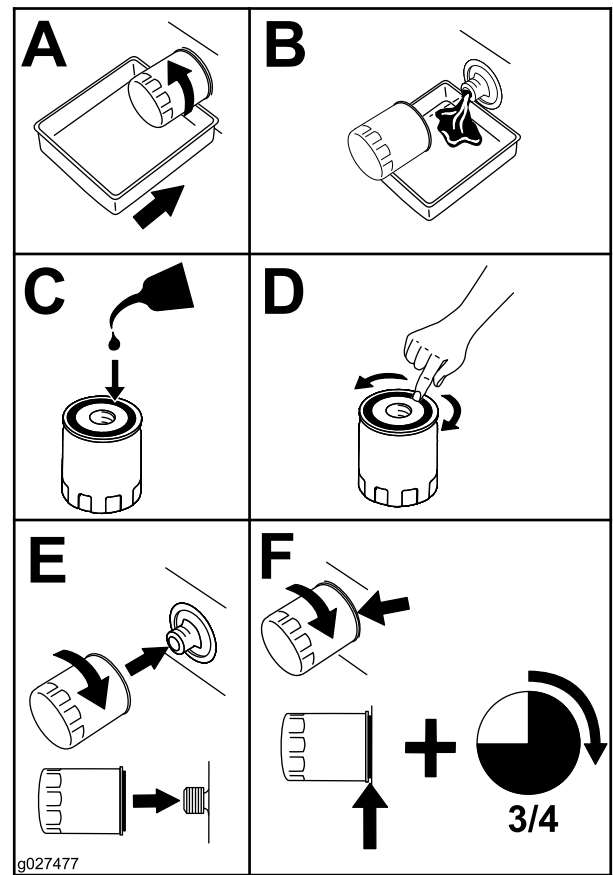

Figure 42
2. Change the engine-oil filter (Figure 42).